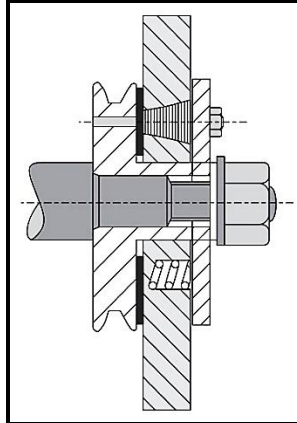

FIGURE 6.2.1
6.2 Identify the TWO vibration dampers shown in FIGURES 6.2.1 and 6.2.2 below.